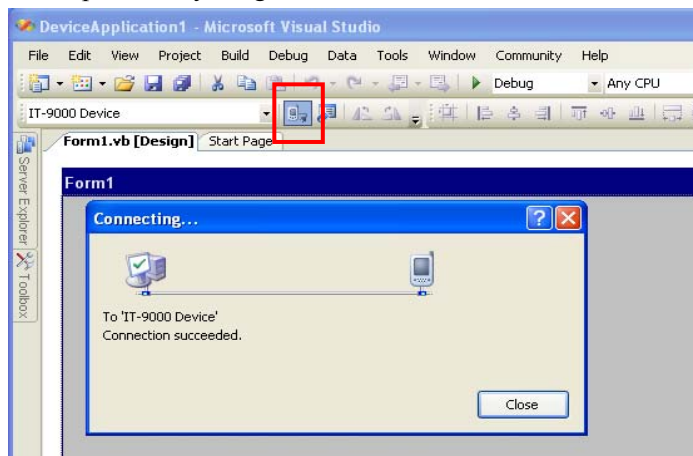

Figure 6.1
3. Click the button shown in the red box below (see Figure 6.1) to make sure that Visual Studio 2005 has recognized the connection established with the IT-9000 via ActiveSync. If it does not, start up ActiveSync again to establish connection.